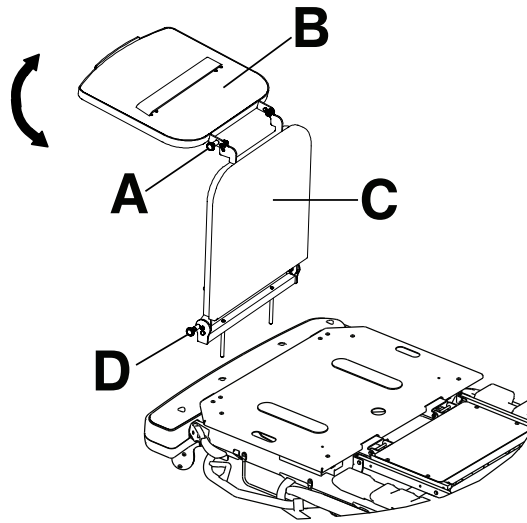

Figure 19 – Defibrillator tray/foot extender
1. Pull out the top knob (A) (Figure 19).
2. Pivot the defibrillator tray (B) until the tray is flat over the foot end of the product. Release the top knob (A). Make sure that the defibrillator tray is locked in place.
To convert the defibrillator tray/foot extender to a foot extender (Figure 19):